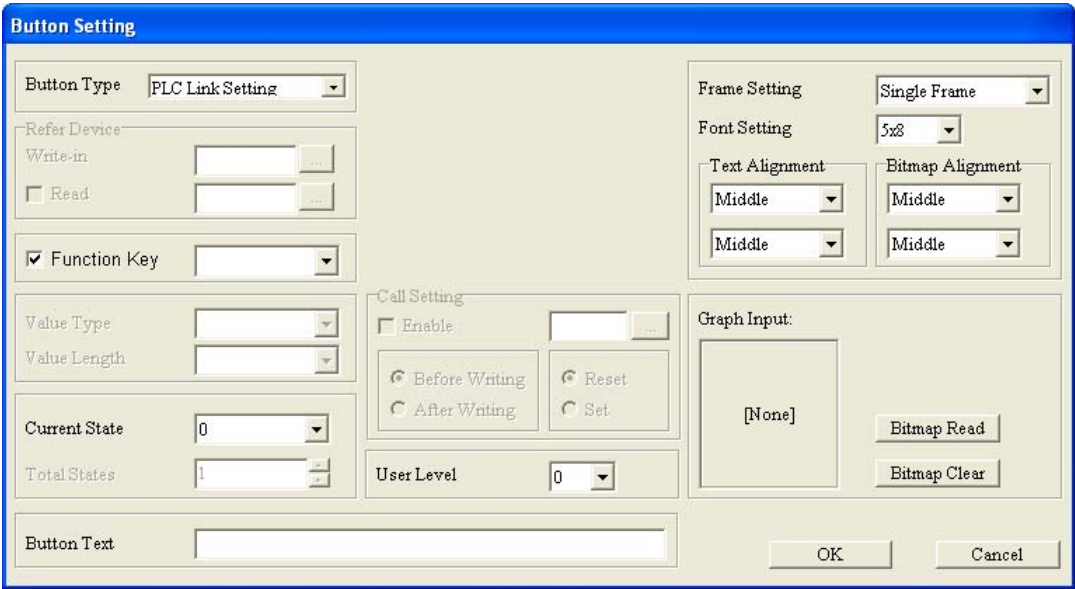

Figure 4-81 **Button Setting** window
- If **PLC Link Setting** is selected, the **Button Setting** window will be as shown in Figure 4-81.